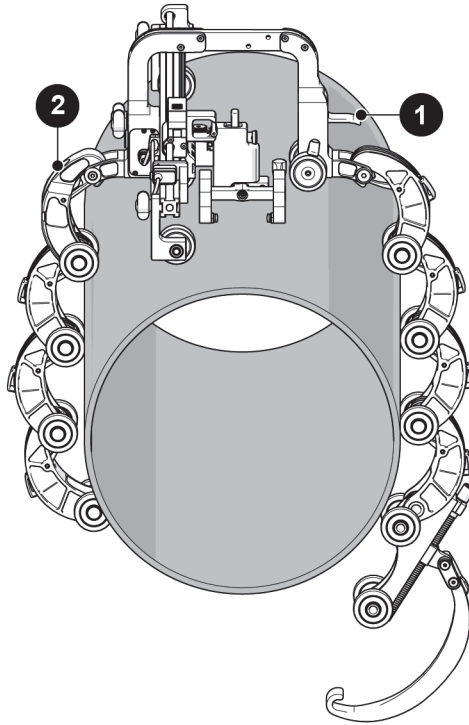

Figure 2-2 Dovetail link (2), brake (1)
6. Arrange the link setup with the buckle and catch link 180° opposite of the arch (Figure 2-2 on page 32).
7. Place the dovetail link after the arch (see Figure 2-2 on page 32).
8. Ensure the brake is activated (see Figure 2-2 on page 32). See “Brake” on page 45 for instructions on activating the brake.